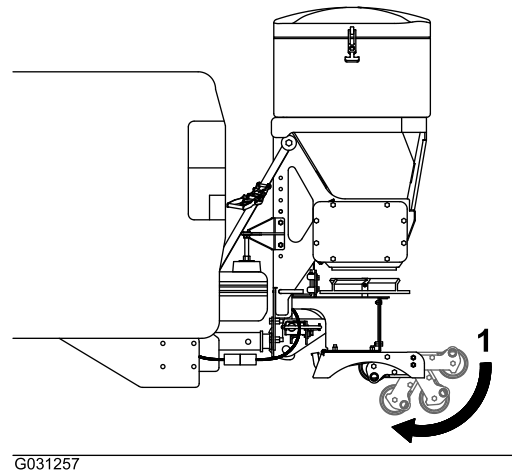

Figure 13
11. Step on the leg-assembly wheels to pivot them and stow them under the leg assembly (Figure 13).